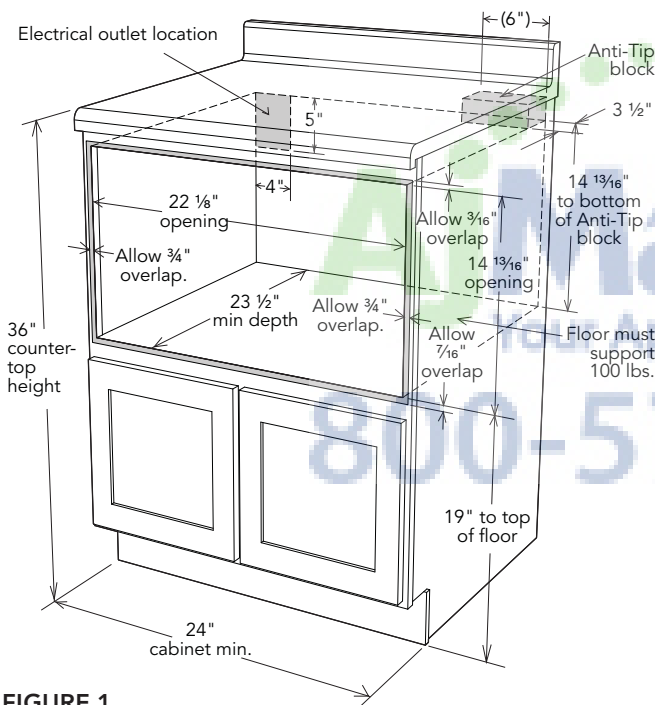
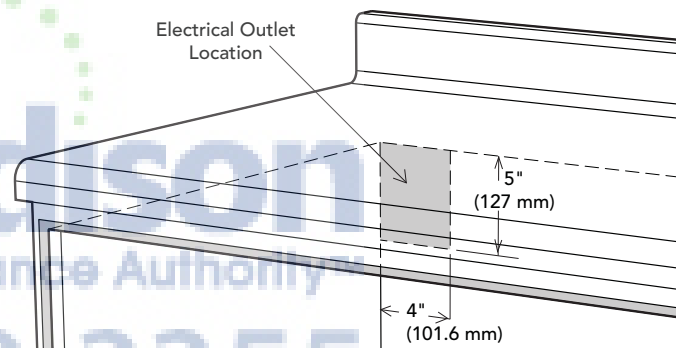

FIGURE 1
FIGURE 4
- FOR **SAFETY CONSIDERATIONS** DO NOT INSTALL DRAWER IN ANY COMBUSTIBLE CABINETY, WHICH IS NOT IN ACCORD WITH THE STATED CLEARANCES AND DIMENSIONS ON PAGE 2, SEE FIGURE 1.
- Dimensions that are shown in FIGURE 1 must be used. Given dimensions provide minimum clearance. Locate electrical outlet in the shaded area in the upper left-hand corner of the cutout. See FIGURE 4.
FIGURES 1 and 2 contain many DrawerMicro Oven measurements for reference when planning the drawer's location.
To reduce the risk of tipping of the drawer, the Anti-Tip block must be properly installed located 14 ¹³/₁₆" above the floor on which the appliance will sit. The 6" Anti-Tip block must be provided by the installer. See FIGURE 1. The Anti-Tip block prevents serious injury that might result from spilled hot liquids.